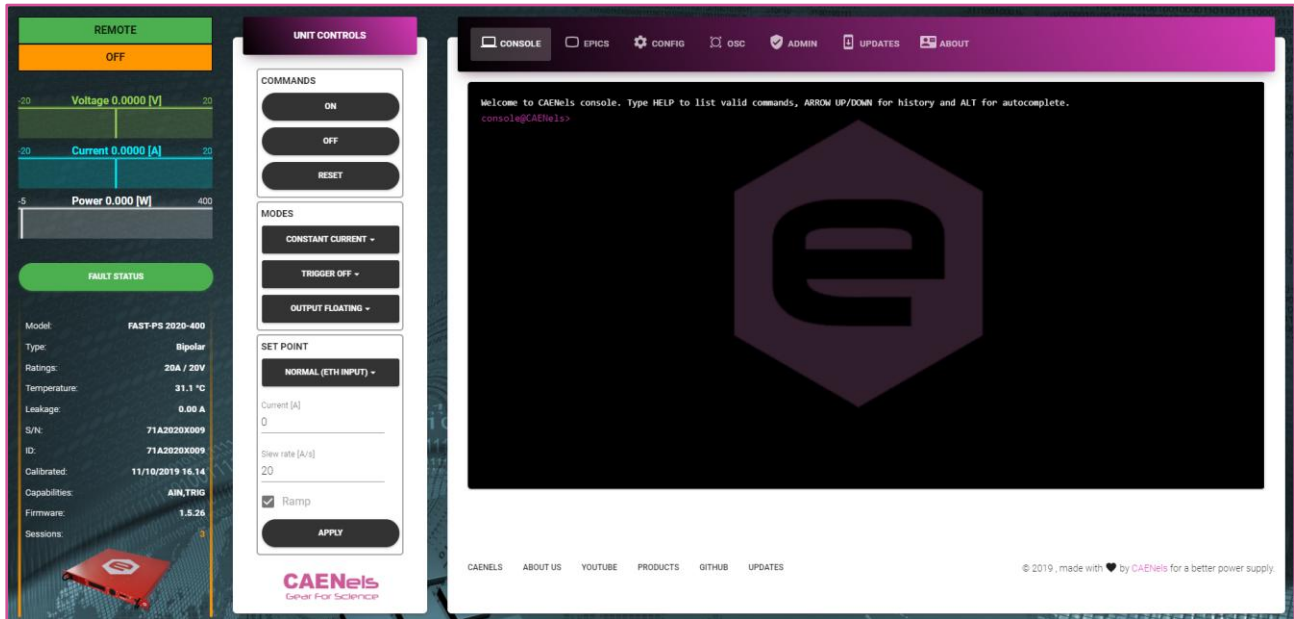
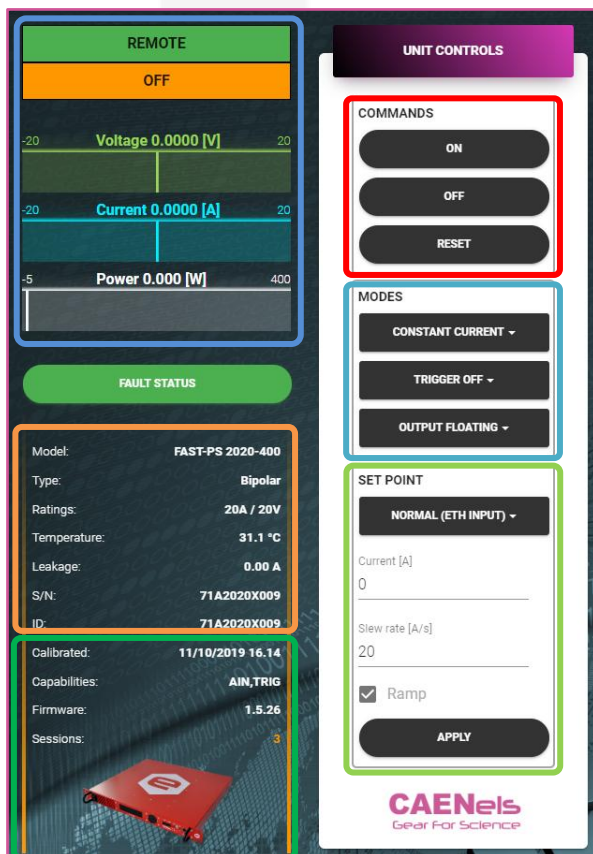

Figure 4: Web Server – Main Window
Figure 5: Web Server – Main Window Information
If a fault happens, the “FAULT STATUS” green button in **Figure 4** and **Figure 5** will turn to red.
The “UNIT CONTROLS” window in **Figure 5** allows to turn the module ON/OFF and to reset eventual faults (when the “FAULT STATUS” widget in **Figure 5** is red). Refer to section 4.7 for further information on faults list.
The “MODES” window in **Figure 5** allows to select between two different control modes:
* The trigger must be hardware installed (it is optional on FAST PS and FAST PS M families). If installed, it will be present as “TRIG” in General Information - Capabilities (**Figure 5**).